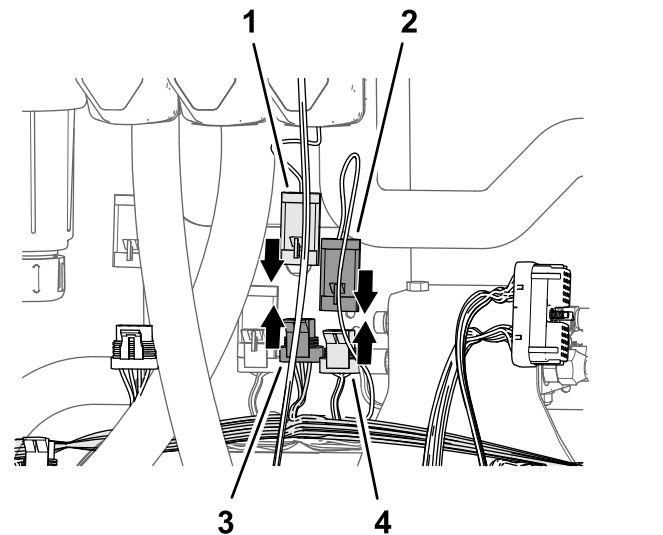

Figure 88
2. Connect the 3-pin connector of the 89 cm (35 inch) kit wire-harness branch labeled MASTER VALVE into the 3-socket connector of the machine wire harness labeled MASTER SPRAY VALVE (Figure 88).
3. Connect 3-pin connector of the actuator for the master-spray valve into the 3-socket connector of the 89 cm (35 inch) kit wire-harness branch labeled MASTER VALVE (Figure 88).